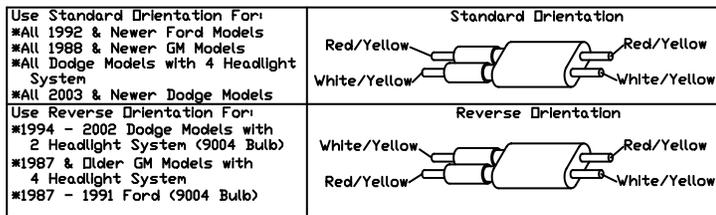

Figure 22. Vehicle Option Connector G10202
32. Locate vehicle option connector. Align the connector so that the arrow on the Vehicle Option Connector is positioned to match the vehicle it is installed on. This is illustrated in Figure 22.